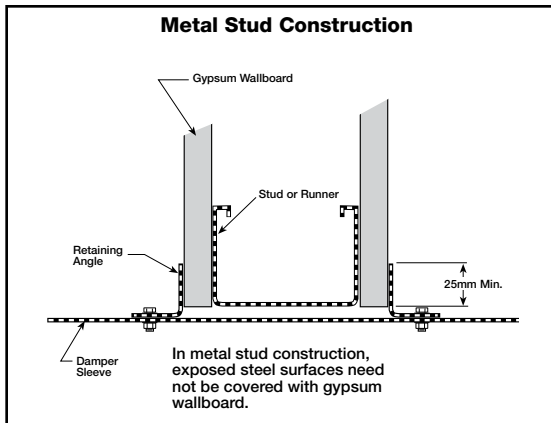

Figure 11: Detail of retaining angles and gypsum board application for metal and wooden stud construction.
- Gypsum wall board must be fastened 305mm on center to all stud and runner flanges surrounding opening (see **Figure 11**).